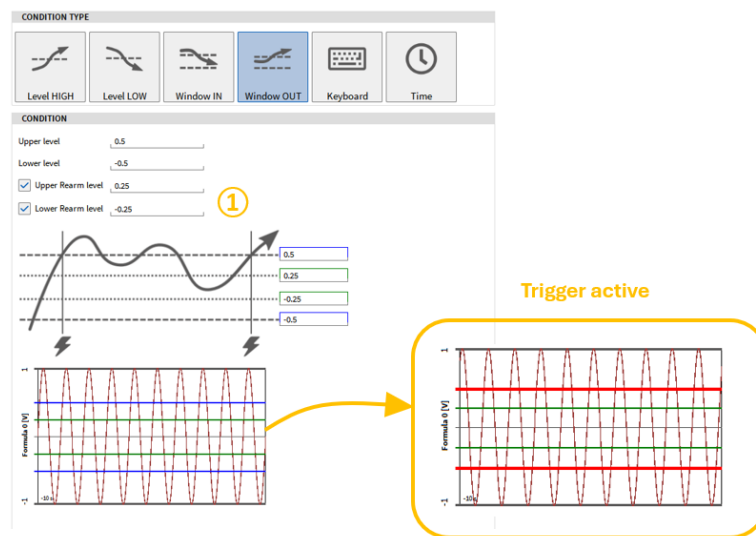

Fig. 9.9: Trigger on *Window OUT*
- **Window OUT:** Activate Event if selected signal is out of a certain range. The user can define an upper and a lower limit (see Fig. 9.9). A *Rearm Level* that must be passed before the trigger is activated again can optionally be defined for the lower and upper limit (see ① in Fig. 9.9).